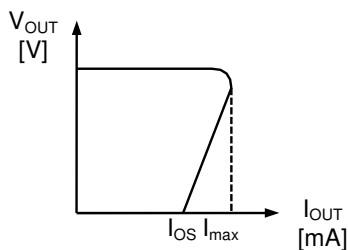

Figure 19
The S-87x Series has a built-in short-circuit protection circuit to protect the element from break caused by a large current in case of a short circuit. The output short current is internally limited to approx. 70 mA. Short-circuit protection circuit has three kinds characteristics according to input voltage (VIN) as shown in Figure 19 to 21.
- (1) At the time of voltage detection, the voltage regulator is shutdown and load current is cut. Therefore, VIN pin voltage increases by  $\Delta V_{IN} = I_{IN} \times R_{IN}$ , where the current flowing into RIN is set to IIN. Hence, if  $\Delta V_{IN}$  exceeds hysteresis width (VHYS), oscillation starts immediately after detection and continues. It is necessary to set  $\Delta V_{IN}$  less than VHYS.
- (2) At the time of voltage release, the voltage regulator is powered on and load current flows. Therefore, if  $\Delta V_{IN}$  exceeds hysteresis width (VHYS), oscillation starts immediately after release and continues. It is necessary to set  $\Delta V_{IN}$  less than VHYS. Also at the time of voltage release, the rush current to charge output capacitor (COUT) flows. Hence, oscillation momentarily starts until the output of regulator (VOUT) rises high enough even though  $\Delta V_{IN}$  is set less than VHYS. But Short-circuit protection circuit controls the rush current less than IMAX on Figure 19 to 21. If this momentary oscillation is a problem in your application, setting RIN less than VHYS/IMAX prevents oscillation.